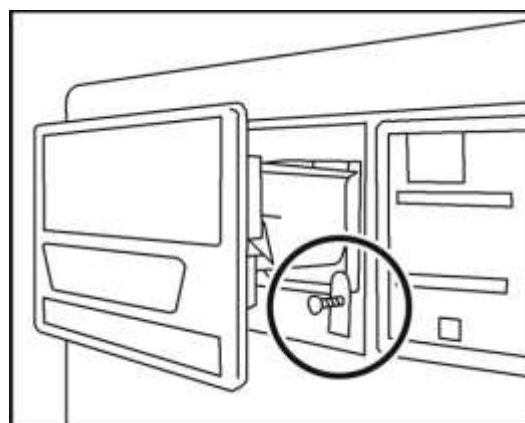

Fig.14.1
- Open the dispenser drawer and loosen the screws on the retaining tabs visible along the bottom (Fig. 14.1).